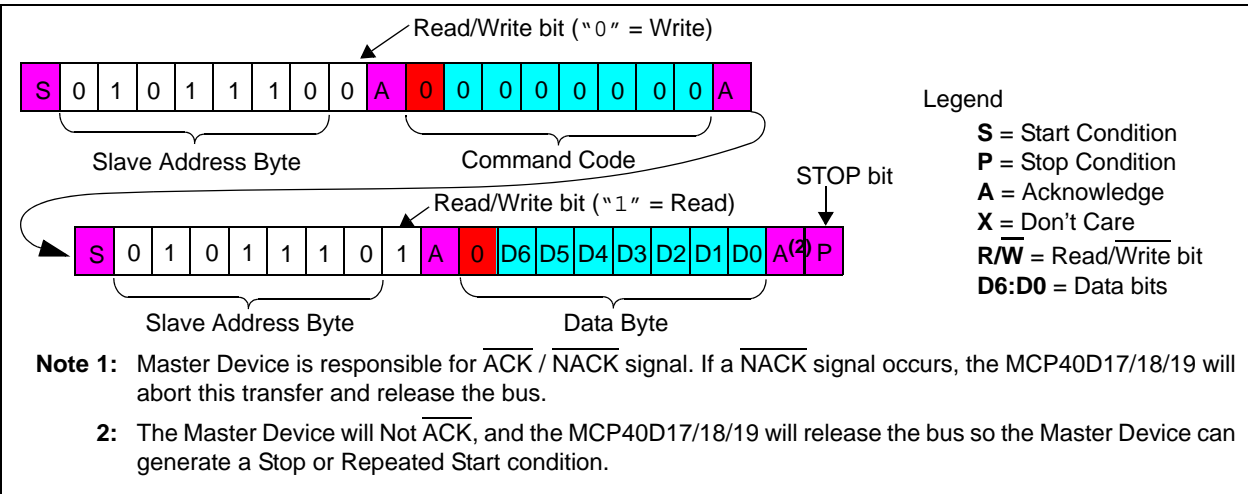

FIGURE 5-15: I²C Read Command Format (Slave Address = "0101110").
The command is terminated once a Stop (P) or Restart (S) condition occurs. Refer to Figure 5-15 for the read command sequence. For a single read, the master sends a STOP or RESTART condition after the 1st data byte (and A bit) is sent from the slave.